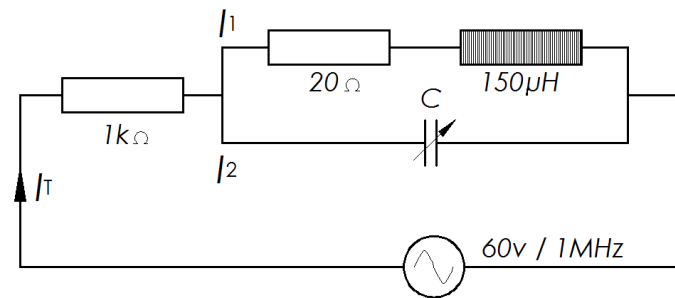

Figure 1.39
5. Consider **Figure 1.39** and calculate the following: